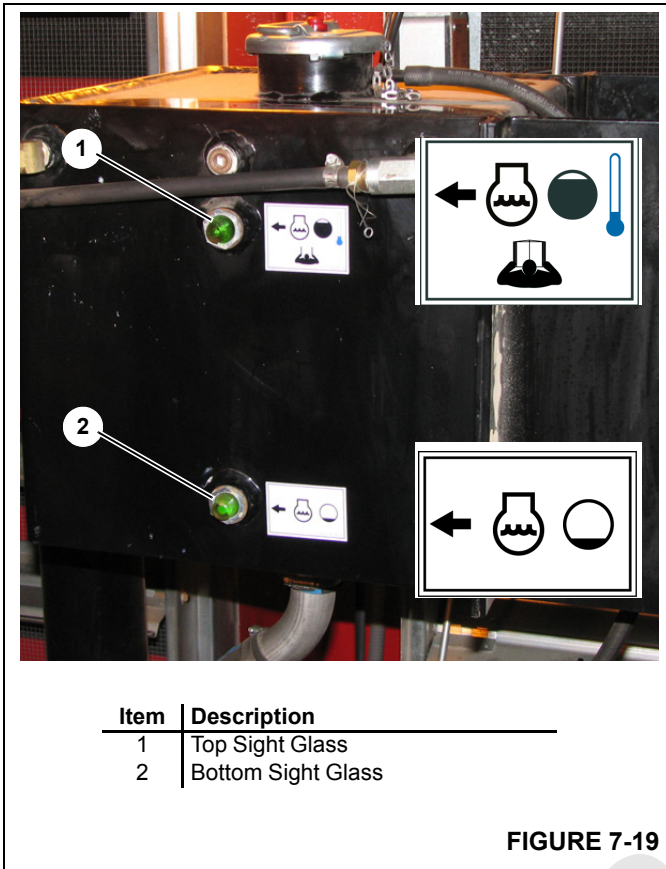

FIGURE 7-19
9. Continue to add coolant to FULL (COLD) LEVEL sight glass (see Figure 7-19) on coolant expansion tank.
Each engine coolant expansion tank contains two sight gauges (Figure 7-19). Both sight gauges should show green.